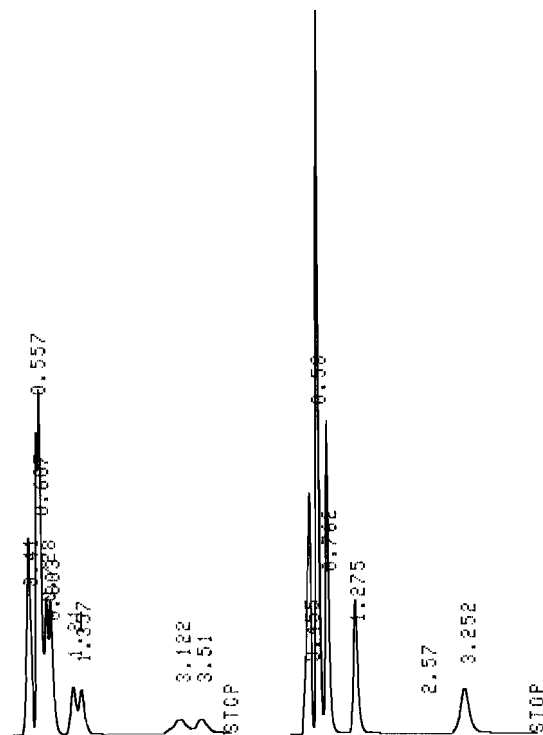

Figure 35-1. Left chromatogram: double peaks through dead volume in the column packing. Right chromatogram: removal of the problem by turning the column round.
- During routine operation, a void may form in the column, and you get double peaks. Sometimes this can be fixed by turning the column around (backflushing), Figure 35-1. Before you say goodbye to your column, you can try the following: place the column in an ultrasonic bath for approximately 5–15 min.